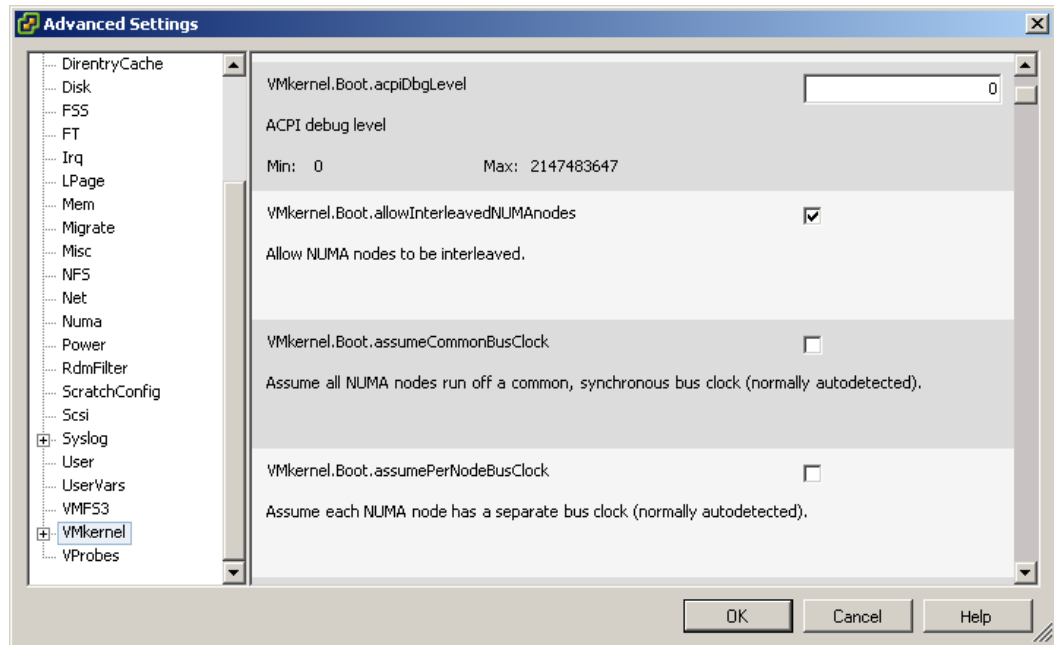

Figure 6-66 Editing the VMkernel settings in vSphere Client
3. Click **VMkernel** in the left pane and select **VMkernel.Boot.allowInterleavedNUMANodes**, as shown in Figure 6-66 on page 283. Click **OK**.